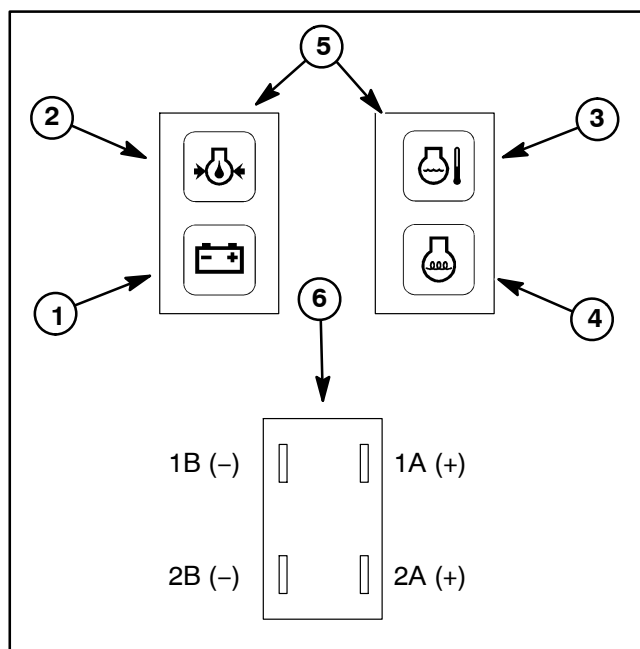

Figure 9
1. Apply 12 VDC to indicator light terminals 1A and 2A (Fig. 9).
2. Ground indicator light terminals 1B and 2B (Fig. 9).